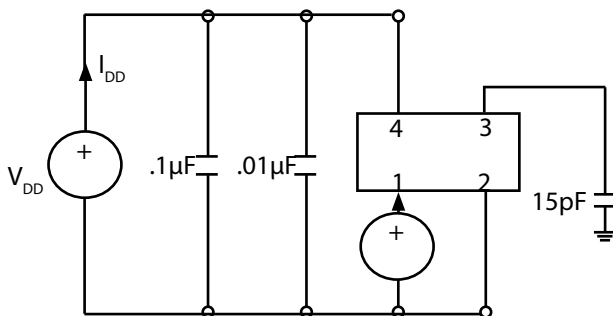

Fig 1: Test Circuit
- 2) Parameters are tested with the test circuit shown in Fig 1.
- 2] Parameters are tested with the test circuit shown in Fig 1.